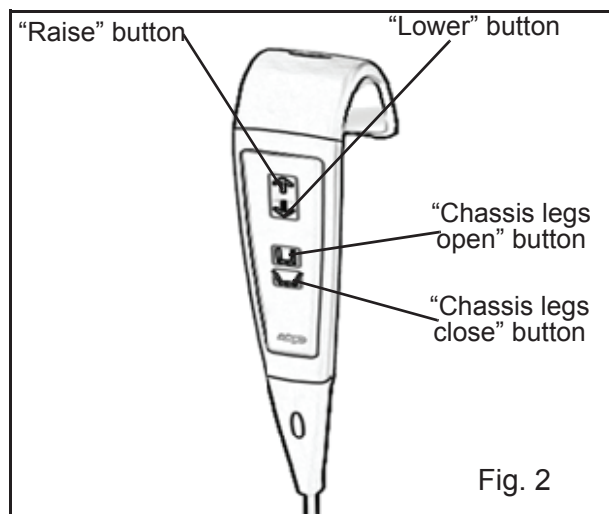

Fig. 2
**Hand control:** A semi-remote control unit attached to the *Sara 3000* by an extending cable. The hand controls are for the raising / lowering and chassis leg opening/closing functions. Direction arrows adjacent to the buttons indicate each function (see Fig. 2). If pressure is released from any button during use, the powered movement will stop immediately.
Operate the button on the hand control or dual control panel to raise the resident just clear of the chair, then stop the equipment by letting go of the button. (See Fig. 2).